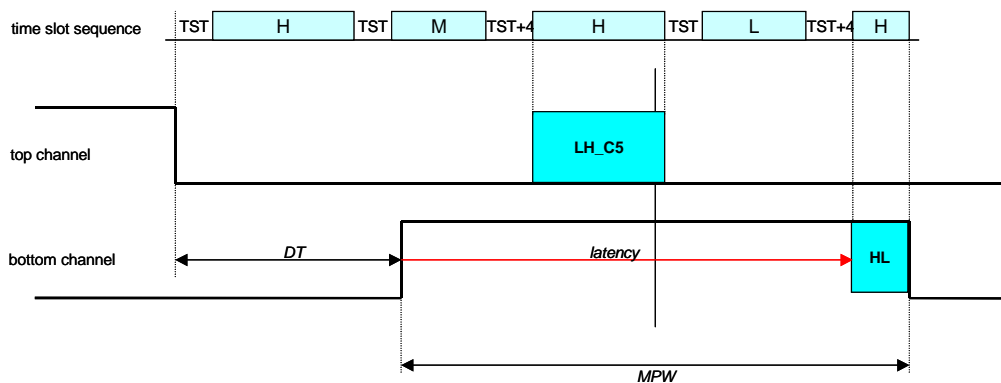
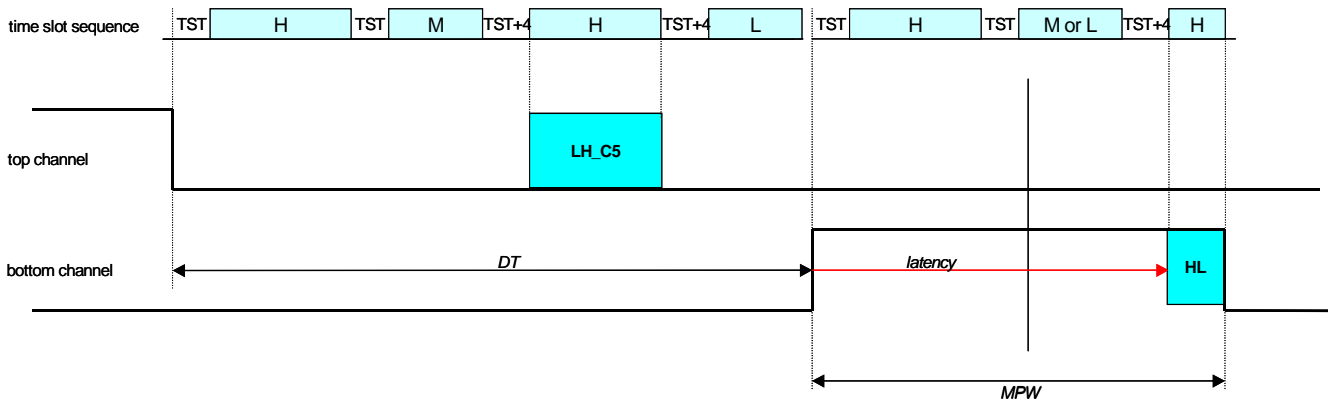

Figure 7. Worst case timing – case one
Figure 8. Worst case timing – case two
In this instance, one of the two worst case timing cases can happen. These are illustrated in Figure 7 and Figure 8. Which case occurs depends on the DT .
- The first case can occur when the DT (in IMB clock cycles) is less than $TST + H + TST + M + TST+4 + LH_C5 + TST+4 + L$ (see Figure 8) that is $4 * TST + 8 + H + M + L + LH_C5$ that is $76 + H + M + L$ IMB clock cycles.
- In **case one** the MPW is (according to Figure 7)
- In **case two** the MPW is (according to **Figure 8**)